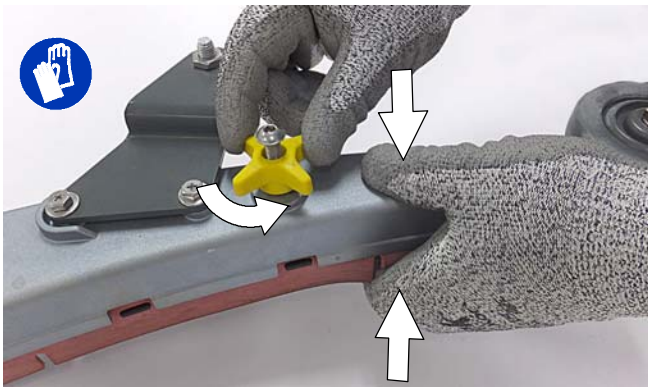

FIG. 133
2. Fully loosen the two outside knobs on squeegee assembly. This will separate the spring loaded blade retainer from squeegee frame (Figure 133). To loosen the knobs quickly, squeeze the blade retainer and squeegee frame together.